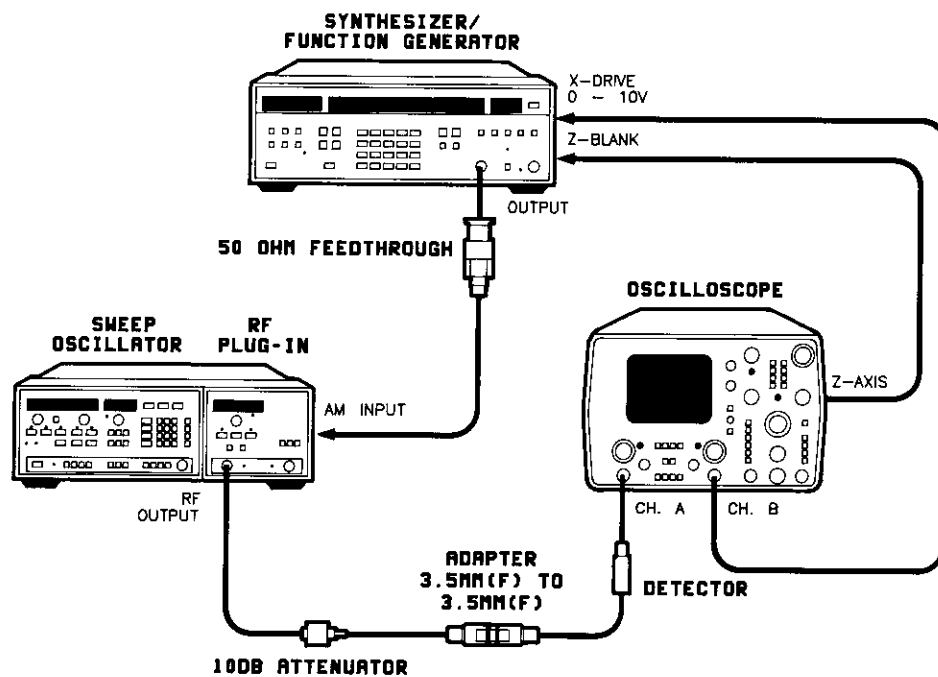

Figure 5-44. ALC Gain Adjustment Test Setup
1. Connect equipment as shown in Figure 5-44. Allow 30 minutes for warm-up.